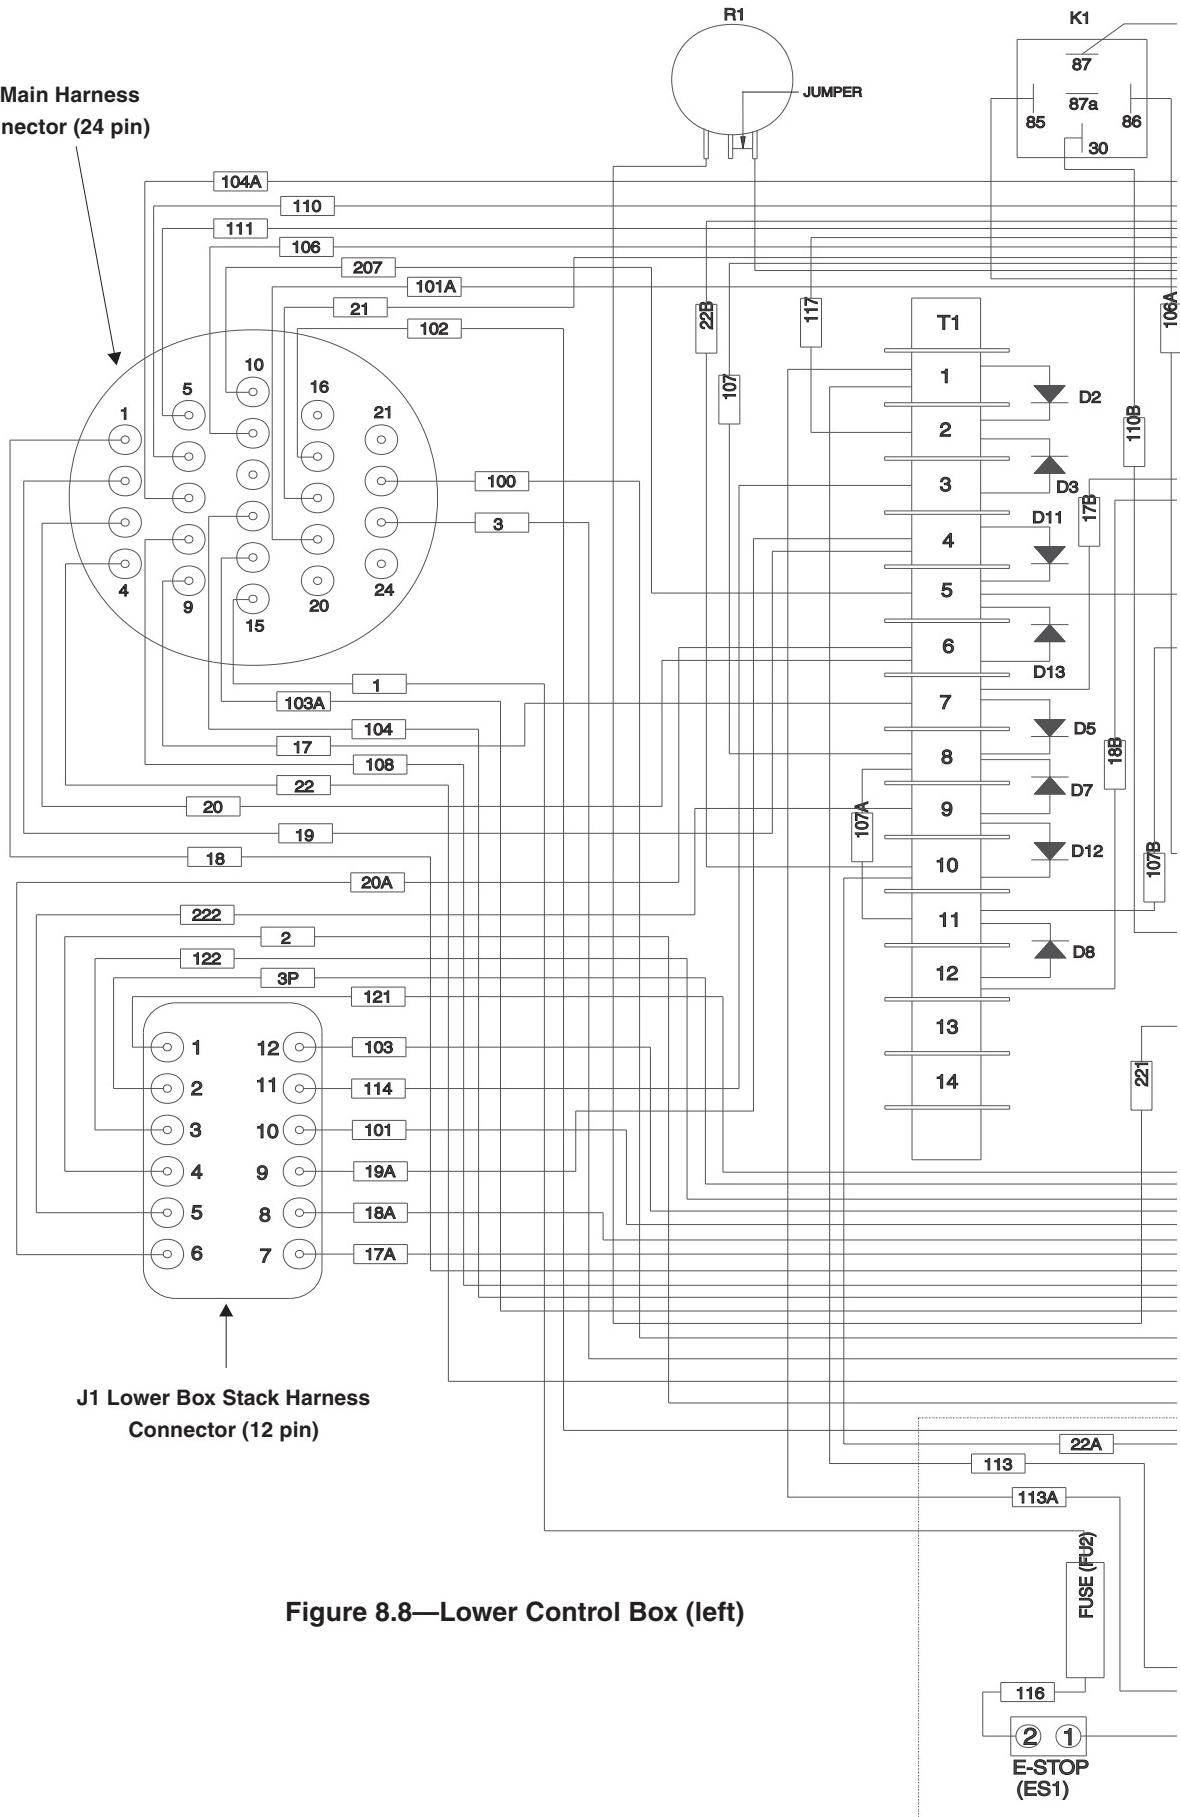
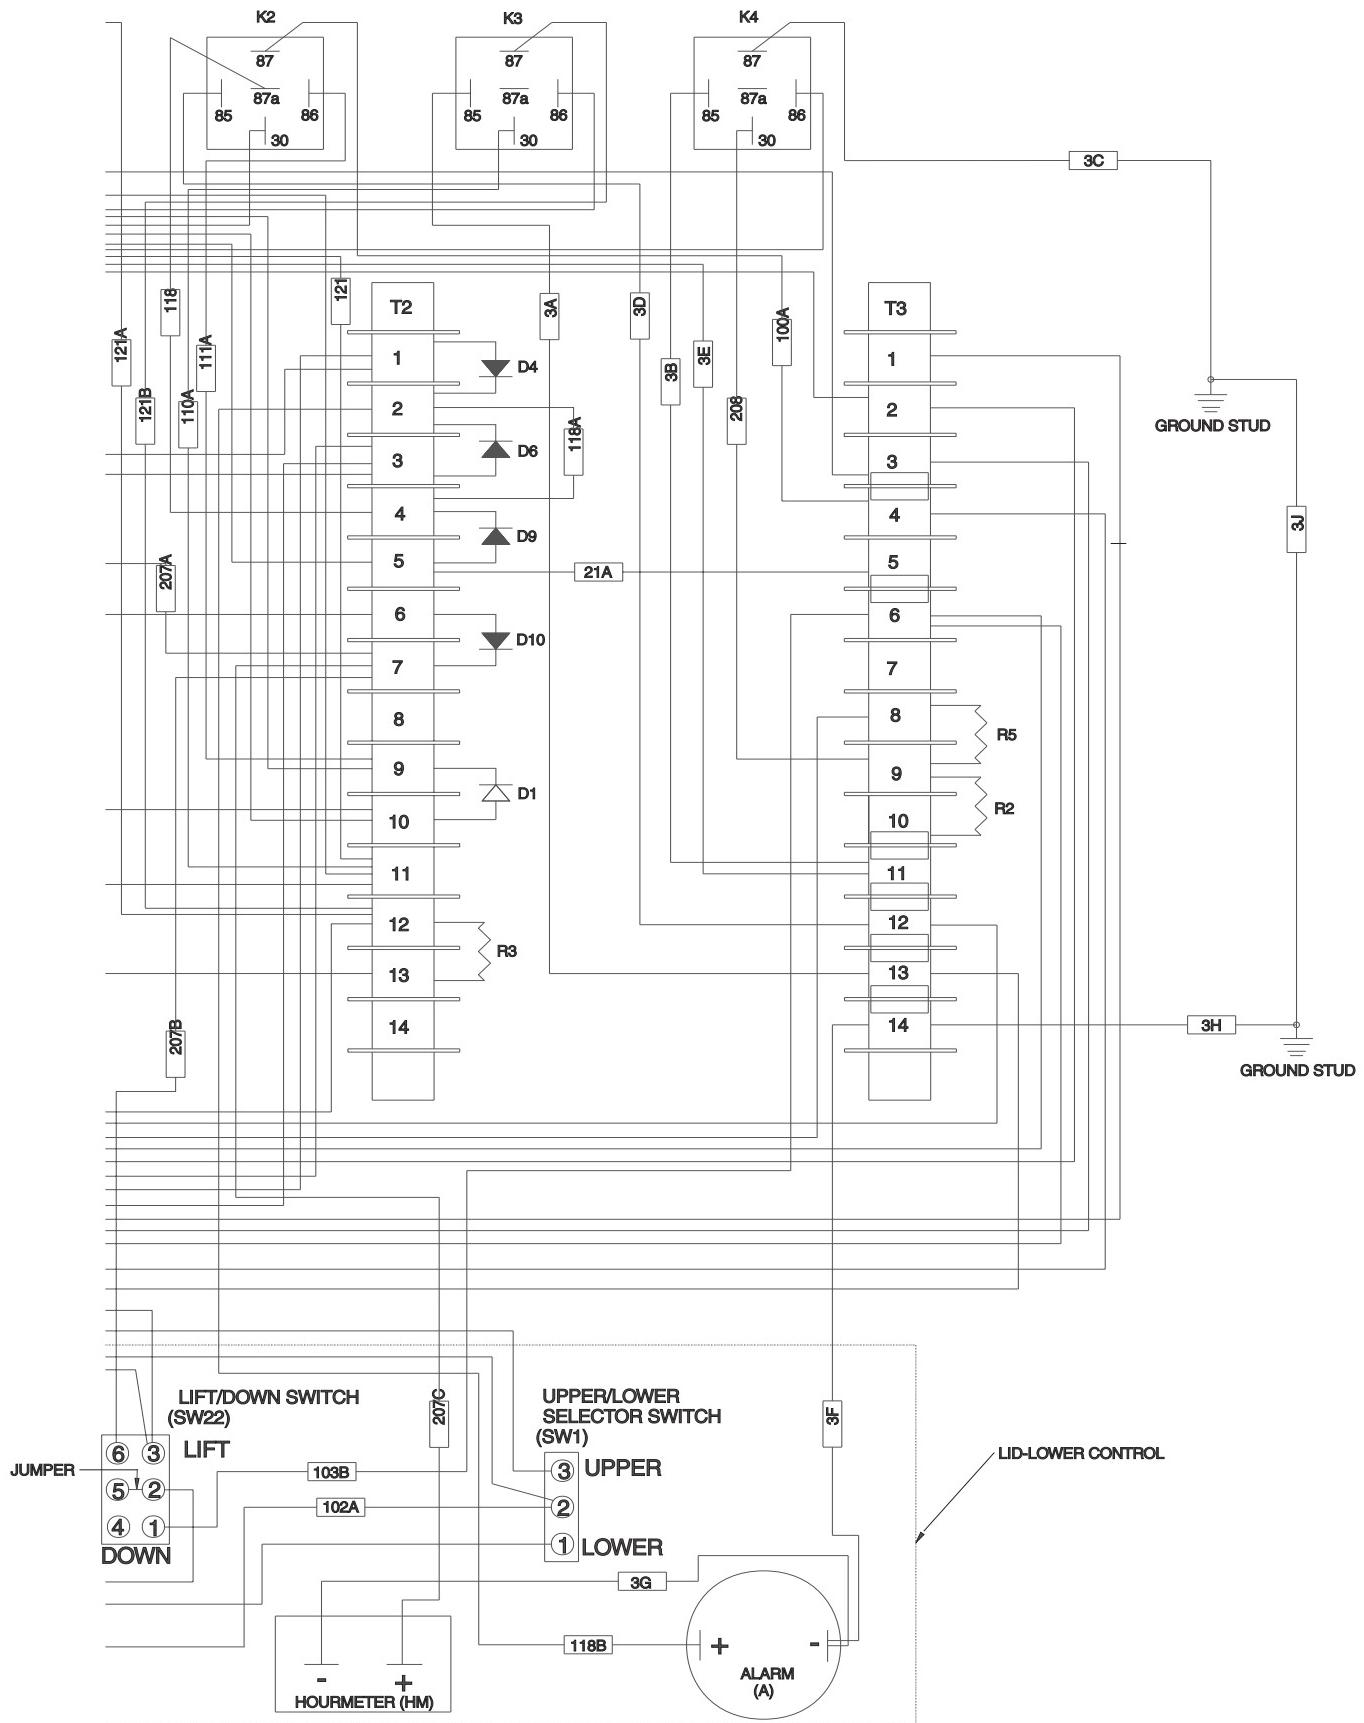

Figure 8.8—Lower Control Box (left)
Figure 8.9—Lower Control Box (right)
5. Check voltage on wire 121 at K3 relay (figure 8.9). Is it 4 to 5 volts? If yes, go to 7 (skip 6). If no, check voltage on wire 110 at controller (figure 8.22). Is it 4 to 5 volts? If yes, go to 6. If no go to Pump Motor Not Running.
4. Check voltage on wire 106 to K1 relay (figure 8.9) at scissor switch. Is it 24 volts? If yes, go to 5. If no, inspect and/or replace scissors switch.
7. Check voltage on wire 111 to K2 relay (figure 8.9). Is it 24 volts? If yes, go to B. Pothole Switch and Level Sensor. If no, replace D1 diode (figure 8.9) and go to B.
5. Check voltage on wire 111 from level sensor to K2 relay (figure 8.9). Is it 24 volts? If yes, go to 6. If no, inspect and/or replace wiring and level sensor.
6. Check voltage on wire 106 to K1 relay (figure 8.8). If no voltage, go to 7. If any voltage is present (1 to 24 volts), replace diode D1 (figure 8.9) and continue to 7.